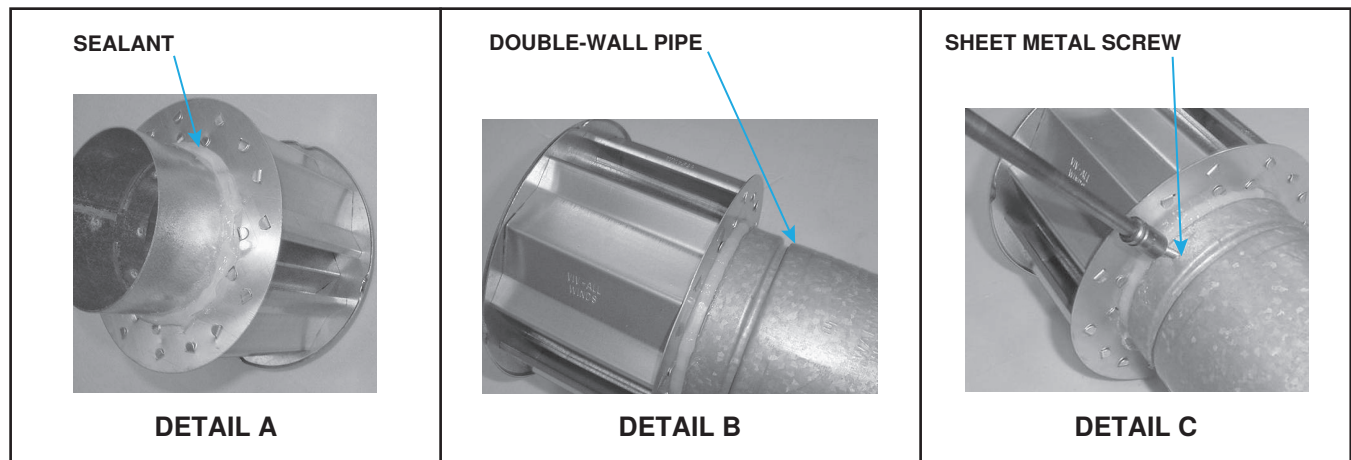

Figure 18. Connecting Double-Wall (Type B) Pipe to Vent Cap
- Apply continual 3/8-inch bead of silicone sealant around circumference of vent cap collar (see Figure 18, DETAIL A) to prevent any water inside vent cap from running down double-wall pipe.
- Before sealant has any time to dry, insert collar on vent cap as far as possible inside inner wall of double-wall pipe (see Figure 18, DETAIL B).
- Secure vent cap to double wall pipe by drilling hole and inserting 3/4-inch-long sheet metal screw into vent cap collar (see Figure 18, DETAIL C). Do not overtighten screw.